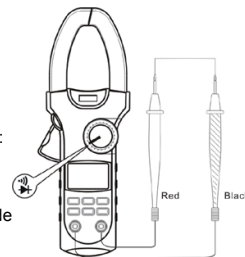

Figure 5
C. Testing for Continuity (See Figure 5)